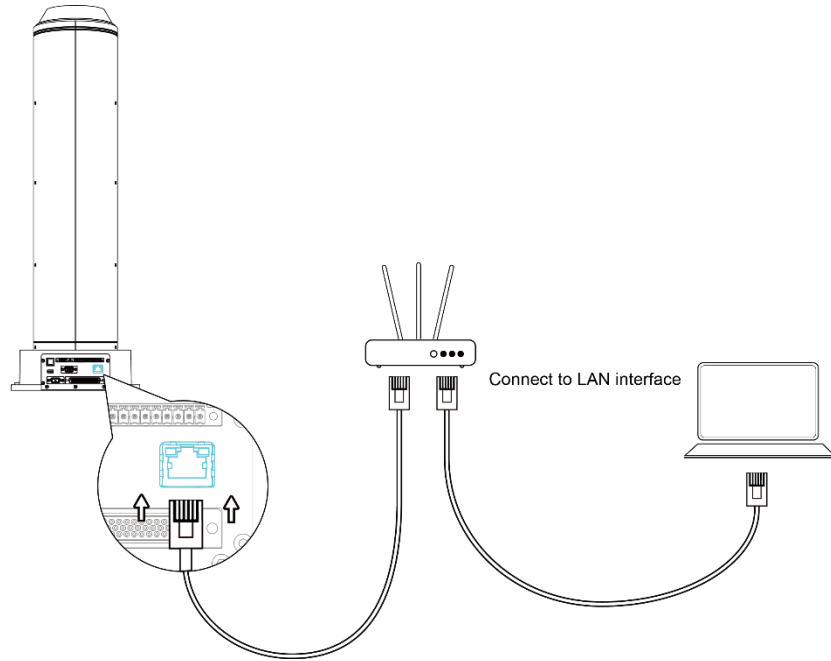

Figure 5.16 Connect via router
- Step 2** Connect the other end of the network cable to the router which also connects the PC, as shown in Figure 5.16.